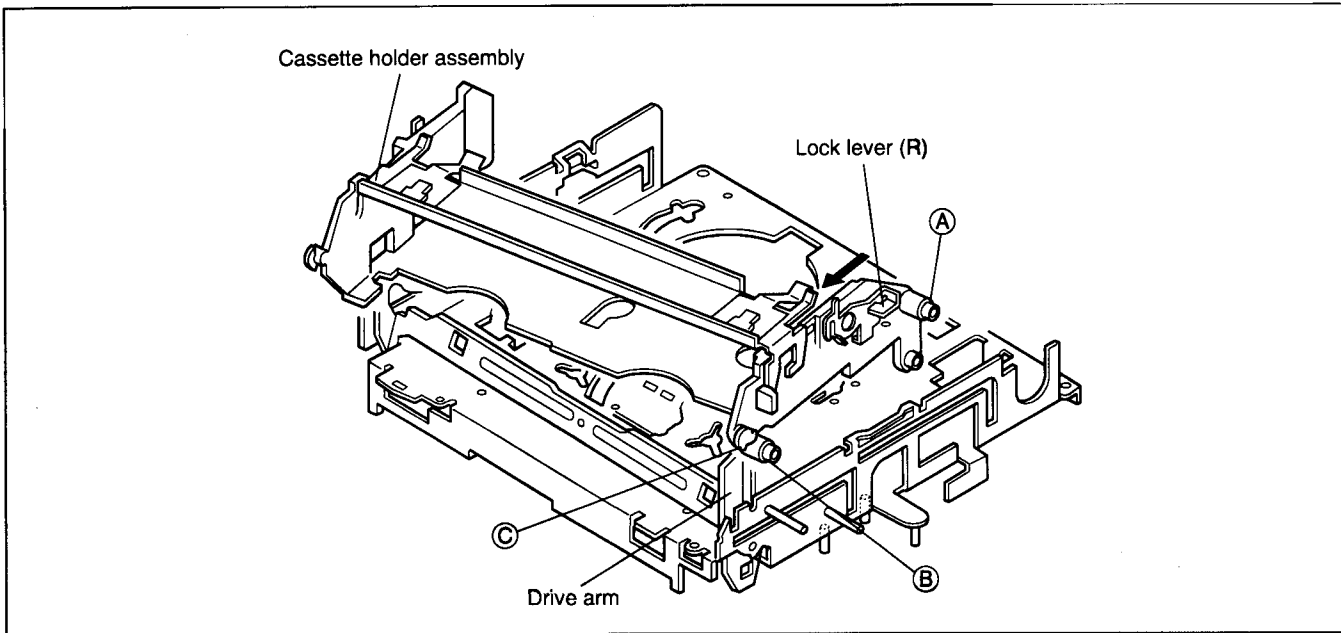

Fig. 2-2-7
- (1) Hold the drive arm upright and fit the leg © on the right side of the cassette holder assembly into the groove. (See Fig.2-2-7)
- (2) While swinging the lock lever (R) of the cassette holder assembly toward front, put the legs (A) and (B) into the rail. (See Fig.2-2-7)